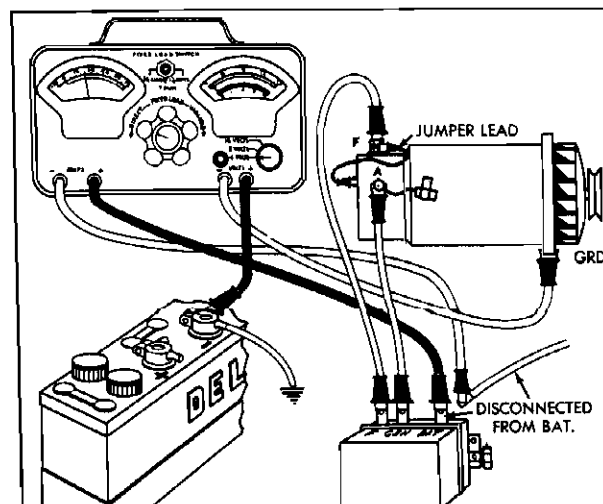

Fig. 11-13 Generator Circuit Ground Test—Grounded Side
2. Connect ammeter and jumper lead, as shown in Fig. 11-13, and leave voltmeter selector switch in 4 volt position.